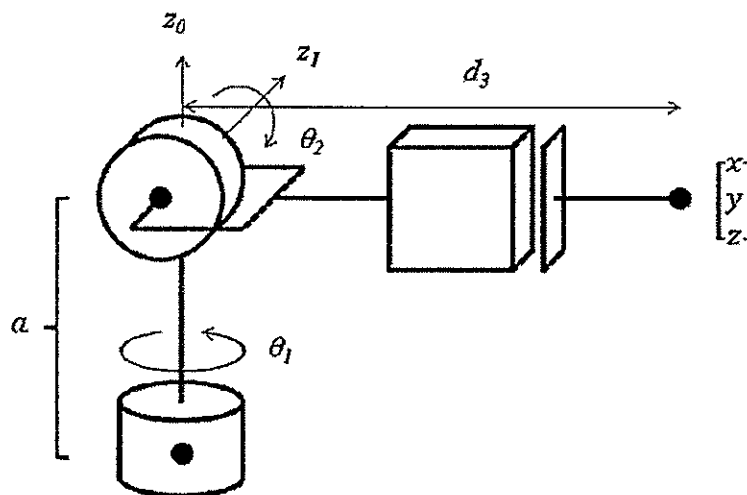

Figure 1. In this figure,  $\theta_1$  and  $\theta_2$  are shown at  $0^\circ$
- b) Consider the arm shown in Figure 1.